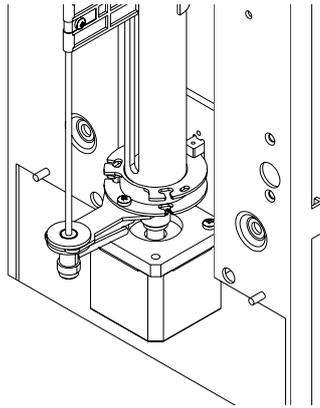

Figure10-47
8. Insert the probe into the wipe block until it reaches the localizer, as Figure10-47 shows;